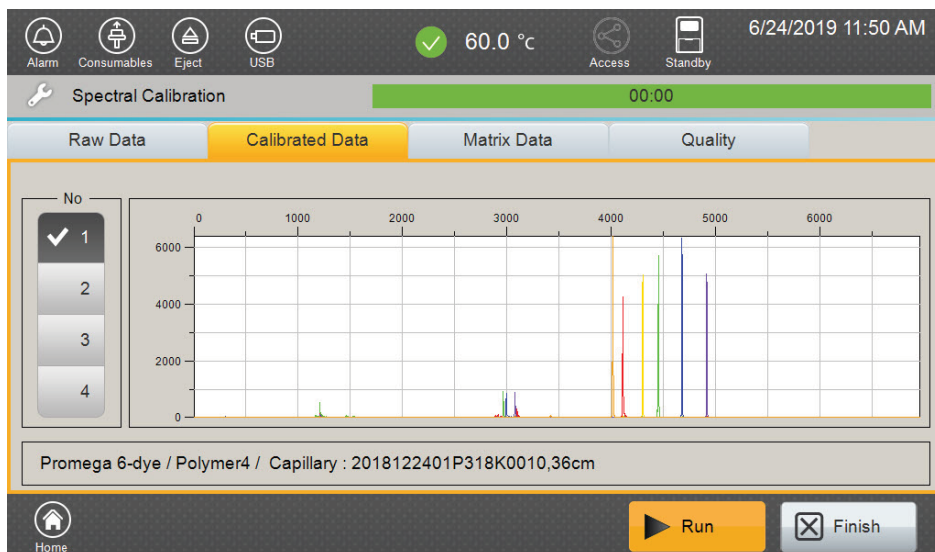

Figure 11. Spectral Calibration 'Calibrated Data Tab' screen.
2. The 'Calibrated Data' tab can be used to view the matrix peaks with both baseline and spectral applied for each capillary (Figure 11).